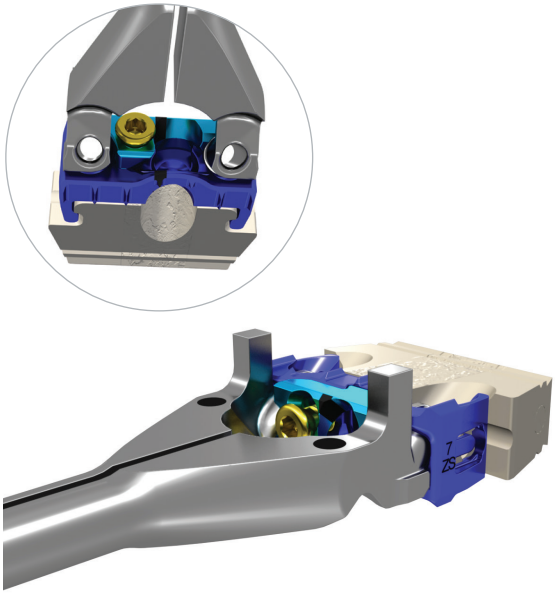

Figure 53
- Ensure that the inserter is fully seated in the plate holes and that the inserter guide positive stop is in contact with the plate. Verify that the guide holes and lateral plate holes are aligned, and that the inserter axis is perpendicular to the anterior face of the plate (Figure 53).